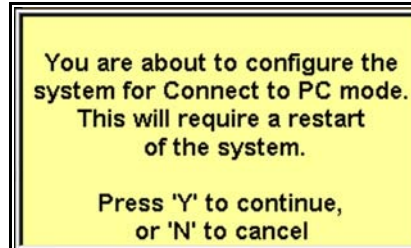

Figure 2-27 Sample Connect to PC message
3. Press **Y** to select and a configuring for Connect to PC message displays (Figure 2-27)